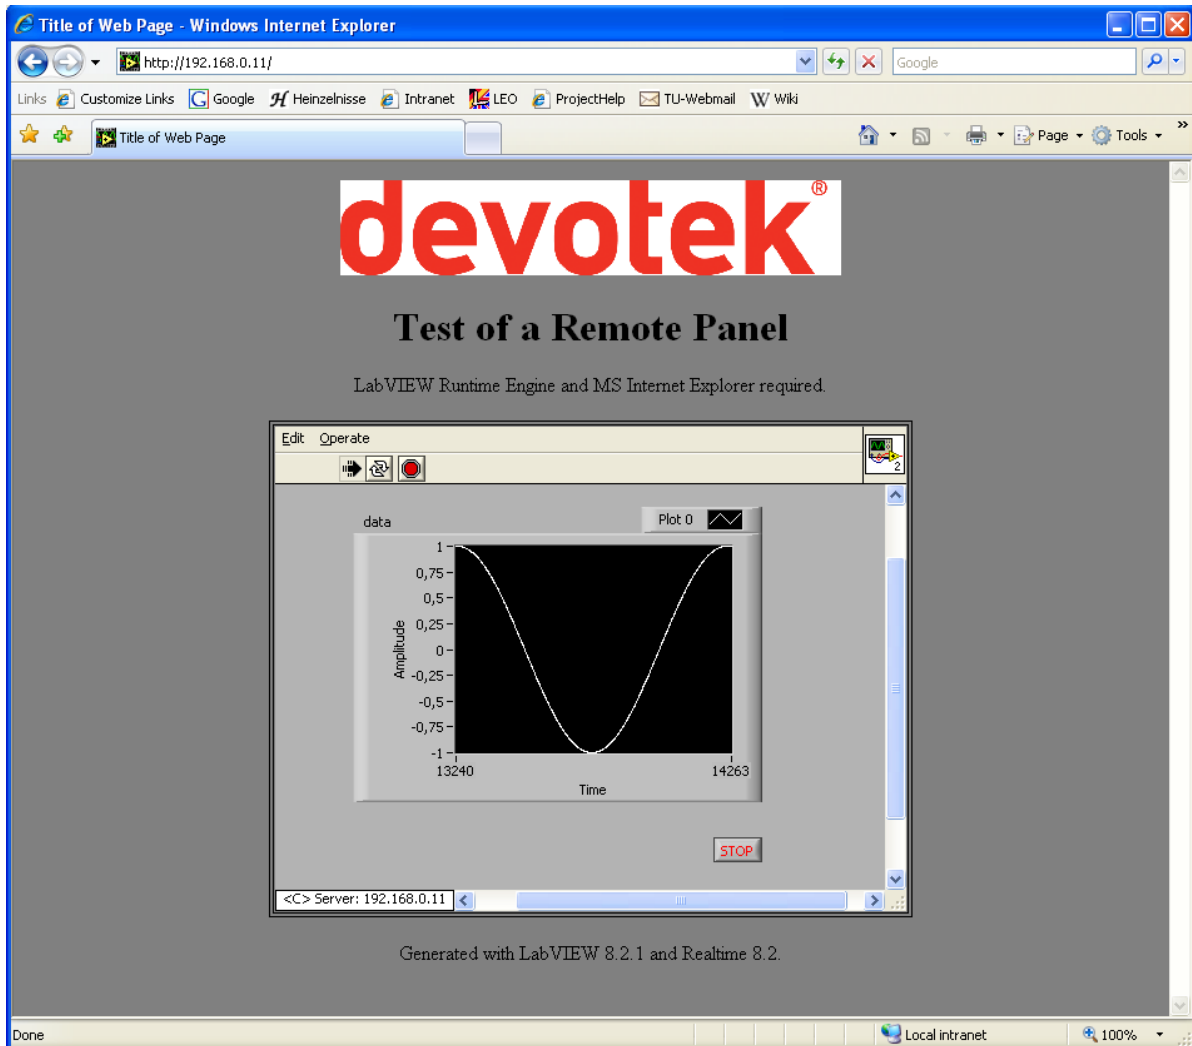

Figure 1: Example of a Remote Panel
10. Type the following address in your *Internet Explorer*: `http://<real time target ip>` (e. g. `http://192.168.0.11`). This should load your website with the running VI plugged in – an example is given in Figure 1.
The VI in Figure 1 was tested. It generates a sine function and displays it in a waveform chart. The sine is built from dots – one each 10 ms. One remote panel was opened in controlling mode. The traffic direction is seen from the real time target. Thus, upload means traffic from the target to the remote panel, download describes traffic from the remote panel to the real time target.